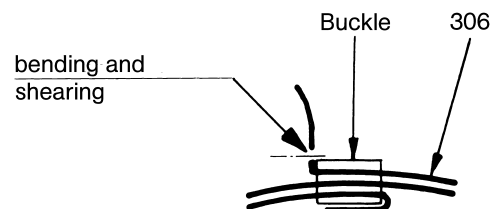

Figure 12: Bending and shearing of the clamping band.
Note: In case of clamping bands of Hastelloy material, shearing with the clamping tool is not possible. After bending at the clamping band buckle, the clamping band must be sheared by means of sheet metal shears and the cutting edges deburred (please refer to Figure 12 below).
- When using clamping tool PoK-It II, bend clamping band (306) after clamping at the clamping band buckle by swinging the clamping tool so that the band cannot glide back through the buckle. After bending at the clamping band buckle, the clamping band must be sheared with sheet metal shears and the cutting edges deburred (please refer to Figure 12 below).
ATTENTION Check whether the clamping band is bent so that it cannot glide back through the clamping band buckle (please refer to Figure 12 above). If this was not achieved, the clamping band must be removed and replaced by a new one.